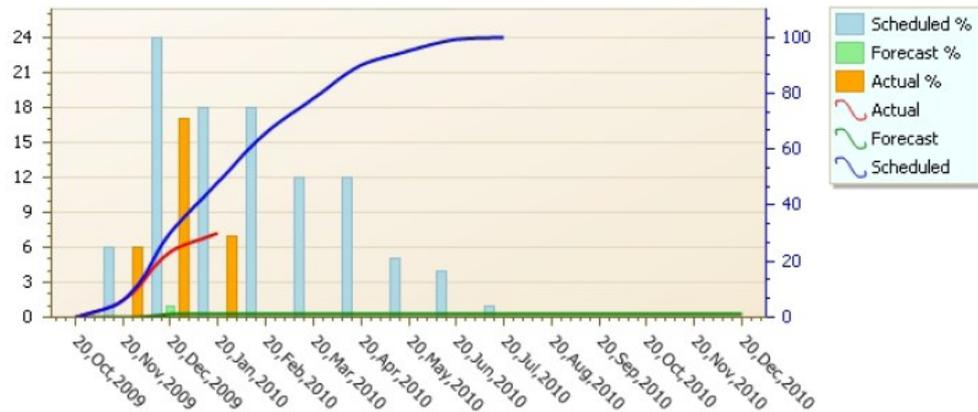

Fig 1.1
**Putting it all together:** Overall project progress is the weighted average of the progress of all deliverables. The Fig 1.1 scheduled, forecast, and actuals against time.